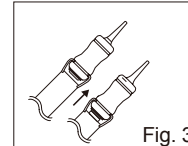

Fig. 3
- c) Immediately place the capsule into a GC Capsule Applier and click the lever once (Fig. 3). The capsule is now activated.